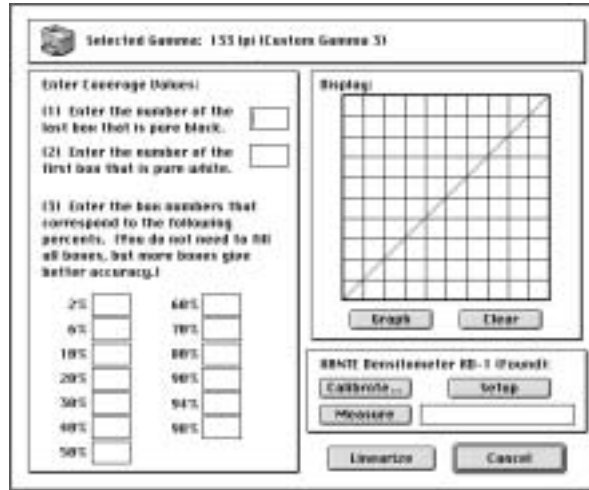

Fig. 10 XD-1 Data Entry Window (Macintosh)
1. Click Enter Curve/Linearize in the Linearization window (fig. 3 Macintosh or 4 PC). The XD-1 Data Entry window appears (fig. 10 Macintosh or 11 PC).
2. Measure individual patches on the calibration page by placing the page on a white background; then, center the XD-1's lens over the patch and either click the black button on top of the XD-1 or click the measure button on the XD-1 Data Entry window (fig. 10 Macintosh or 11 PC). The measurement appears in the box to the right of the Measure button.
3. Make sure to enter the solid black (1) and solid white (2) measurements first. Enter the number of the patch whose XD-1 measurement most closely matches (within $\pm 2\%$) the corresponding percentage in the Enter Coverage Values section (Macintosh) or the Device Data section (PC).
3. Click Enter Curve/Linearize to create a new curve and download it to your printer; the XD-1 Data Entry window appears (fig. 10 Macintosh or 11 PC).